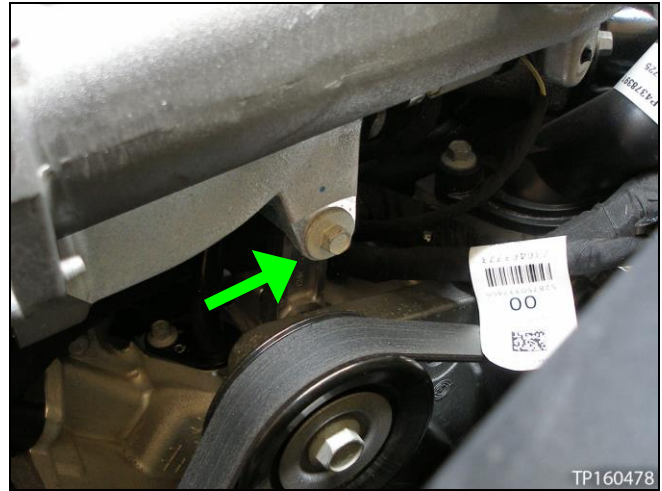

Figure 33
24. Remove the air intake connection bolt (see Figure 33).